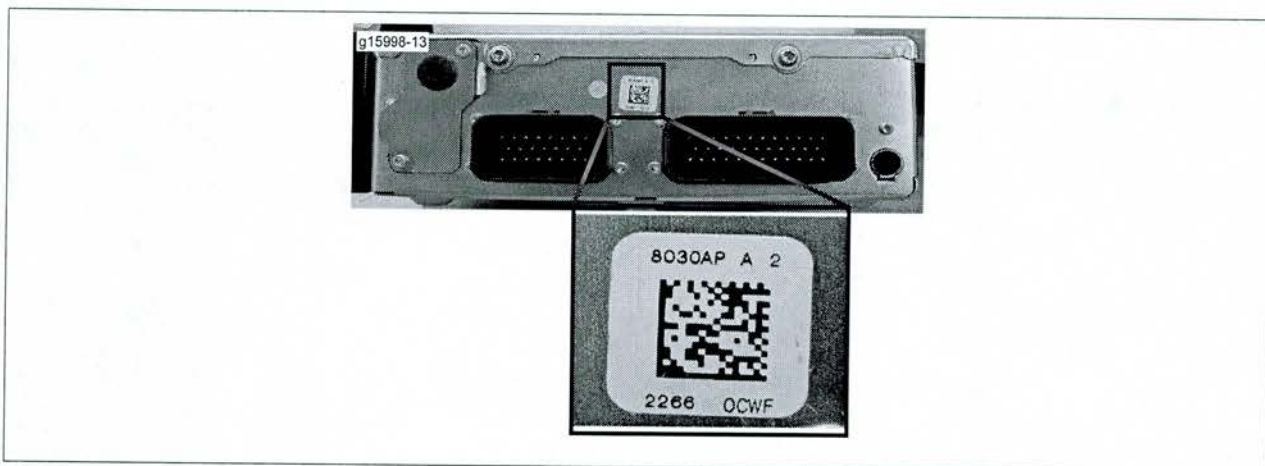

Figure 5. Serial Number Location
- See Figure 5. The serial number of each unit is located on a small square decal on the radio case. It is advised to record the serial number on the repair order prior to removing the radio from the motorcycle to eliminate any confusion as to which radio was removed from which motorcycle.
When sending a radio for repair or warranty replacement, it is recommended that the serial number from the tag on the defective radio be recorded and kept with the vehicle repair records. Figure 5 shows a serial number of 8030AP A2 2266 OCWF